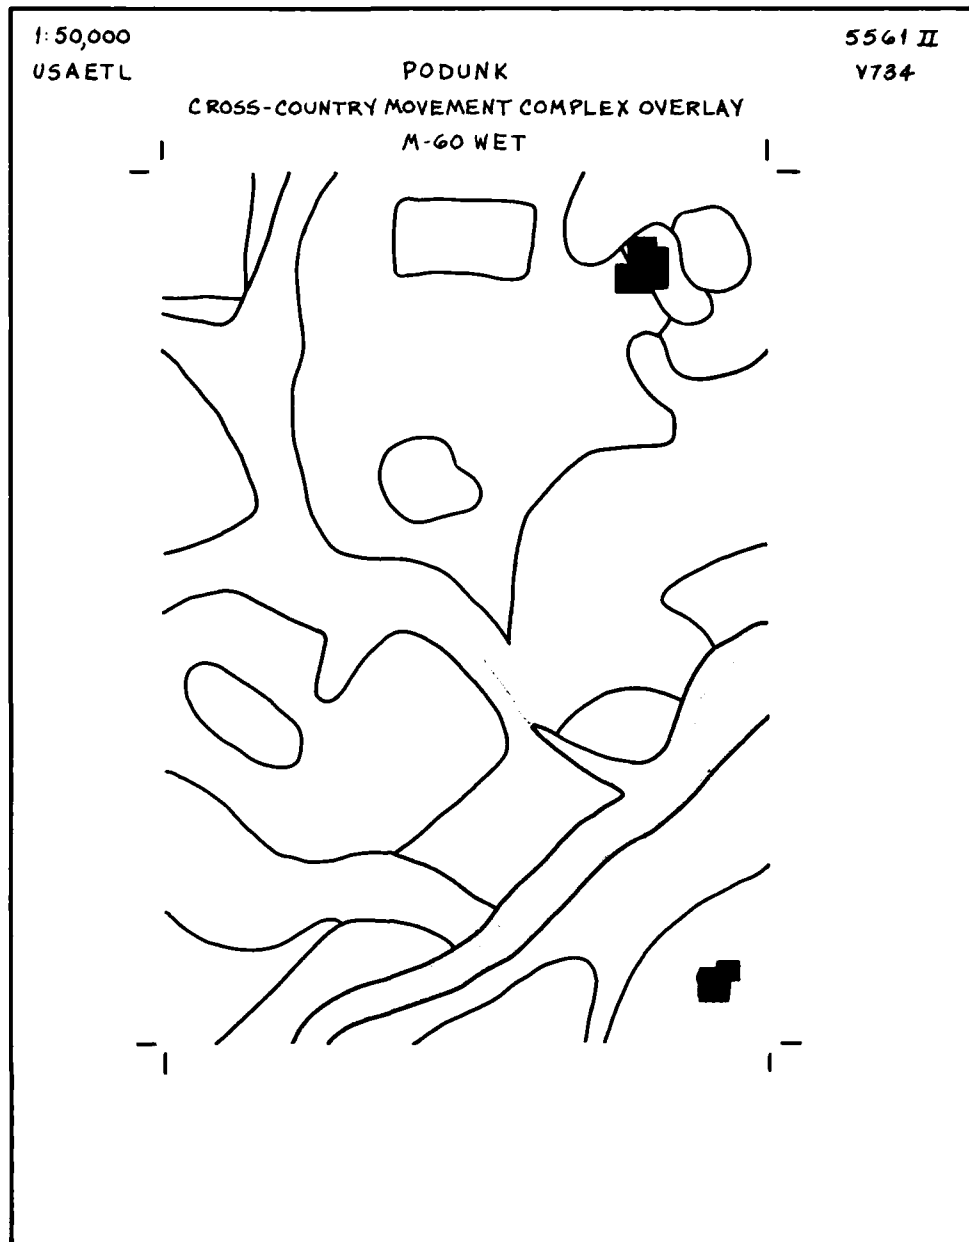

Figure 13. Sample Complex Overlay with Built-Up Areas, Vegetation, and Watercourses Added
b. Trace and color in all drainage features shown as NO GO during the dry season in table 5 with a blue fine-line pencil as shown in figure 13. Trace all drainage features shown as NO GO only during the wet season in red.